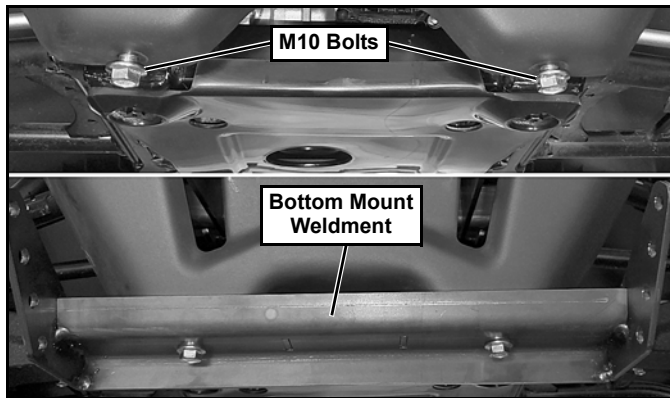

Figure 3
- Remove and retain the M10 bolts from the bottom of the brush guard. Align the Bottom Mount Weldment (#3) with the holes and install the M10 bolts to hold the weldment in position (See Figure 3).